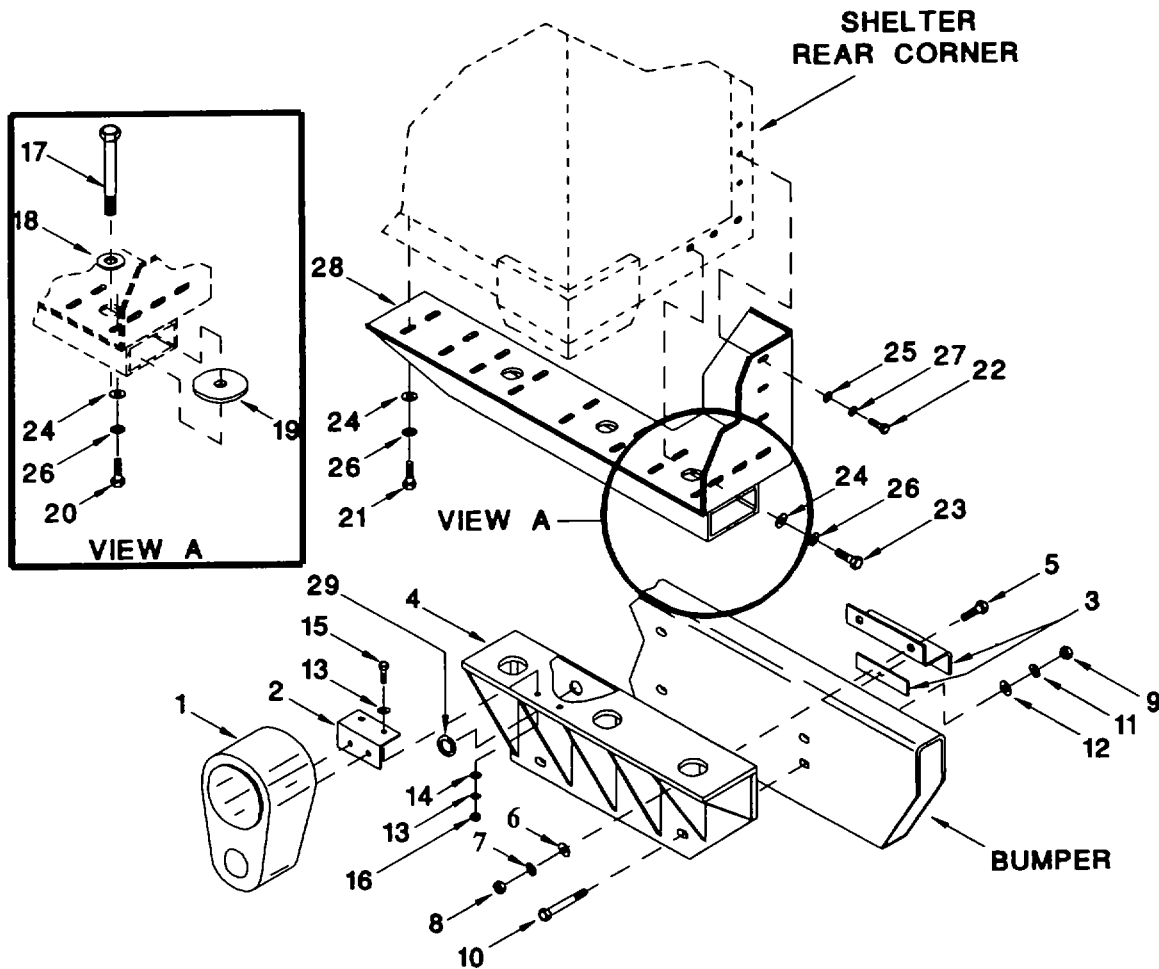

Figure 4-1. Rear Bracket Mounting Assembly
- a. Vehicle Preparations. (Refer to Figure 4-1)
- (1) Remove wheel well side panels located on each side of vehicle per TM 9-2320-280-20.
- (2) Carefully feed antenna cable back through wheel well grommet, place protective cap over connectors, and secure cables behind cross member support in wheel well.
- (3) From inside the curbside rear wheel well, remove the wiring harness clamp mounting bracket.
- (4) Remove cable clamps from wiring.
- (5) Remove tail lights from HMMWV lower frame per TM 9-2320-280-20. Retain hardware.
- (6) Secure tail lights (1) to tail light mounting brackets (2) using bolts and washers removed in step (5).
- (7) Make a single cut through grommet and place it around the tail light wiring.
- (8) Remove camlock fasteners from the vehicle mounting beam located in the front of the vehicle's bed, both sides. Refer to TM 9-2320-280-20.
- (9) Remove strap tie down ring from the front of the bed floor, passenger side. Refer to TM 9-2320-280-20.
b. Rear Shelter Preparations (Refer to Figure 4-1)